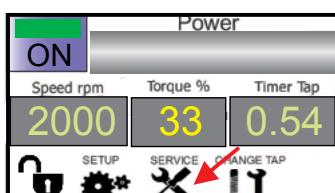

FIG. 3
2. Press SERVICE in the main frame of the control panel touch screen (FIG. 3)